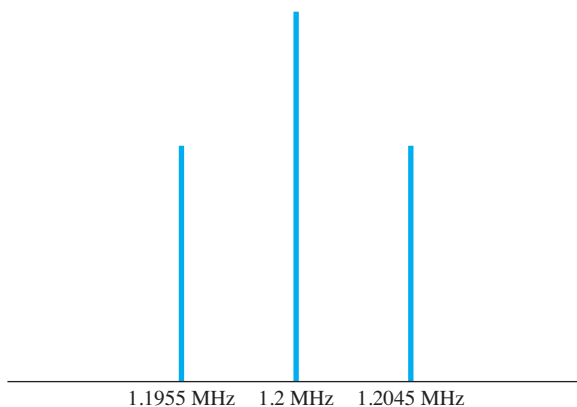

FIGURE 13-54
14. The frequency spectrum in Figure 13-54 is for the output of a standard amplitude modulator. Determine the carrier frequency and the modulating frequency.